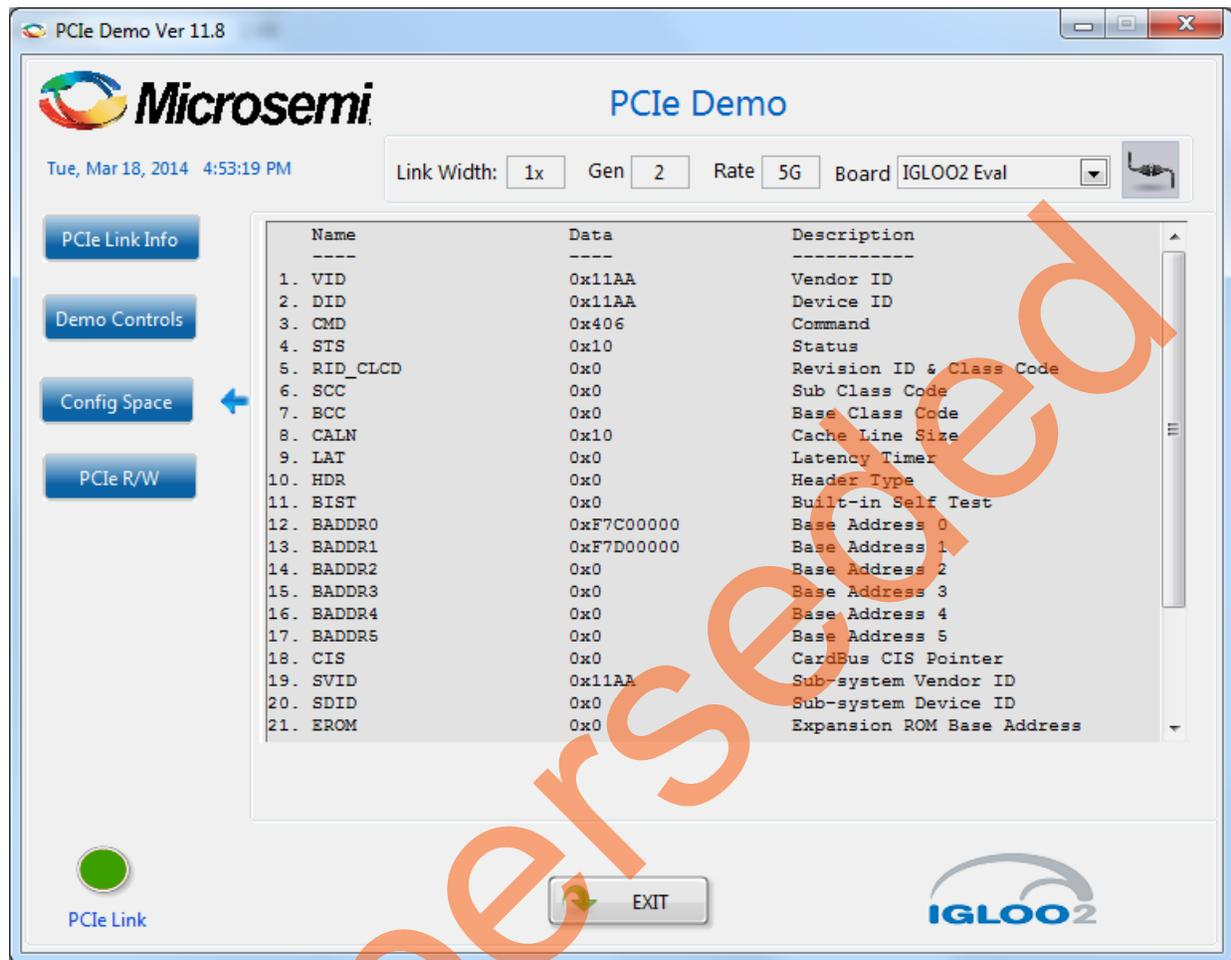

Figure 64 • Configuration Space
12. Click **Config Space** to read details about the PCIe configuration space. Figure 64 shows the PCIe configuration space.